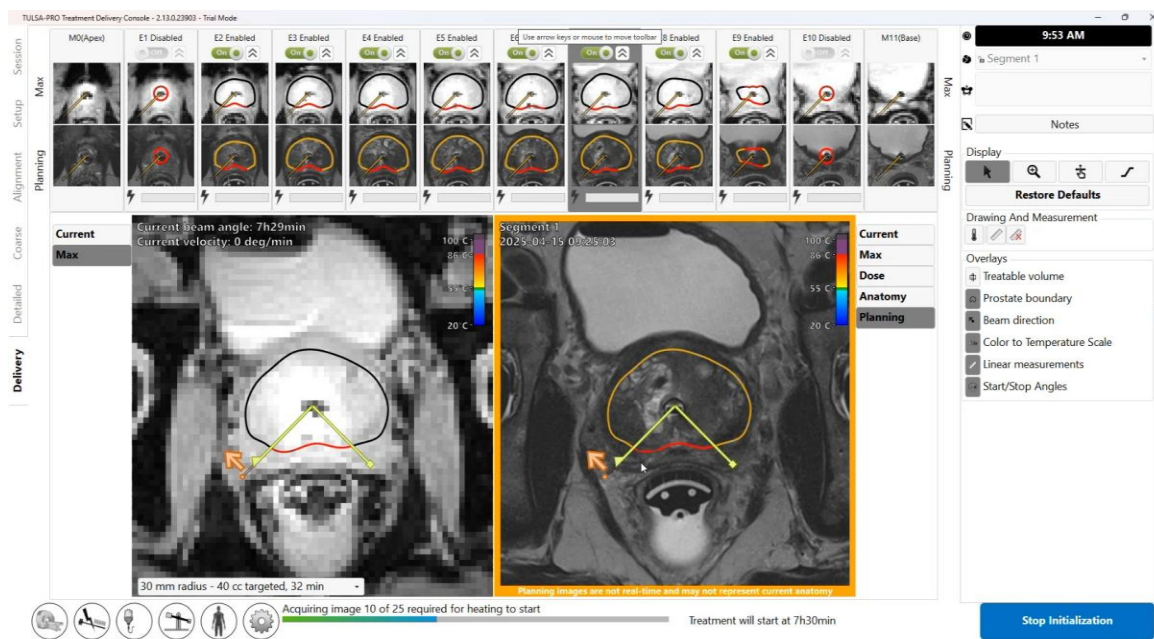

Figure 46: Treatment Initialization state
2. **Radiologist:** Click **Start treatment** on TDC. It will prompt you to verify the core body temperature using an external temperature measurement device before proceeding. Enter the temperature in degrees Celsius and click **Confirm**. The TDC will go into **Treatment Initialization** and is now ready to receive thermometry images (*Figure 46*).